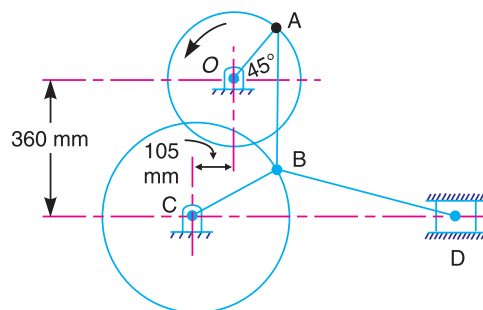

Fig. 8.16
**Example 8.8.** In the toggle mechanism shown in Fig. 8.16, the slider  $D$  is constrained to move on a horizontal path. The crank  $OA$  is rotating in the counter-clockwise direction at a speed